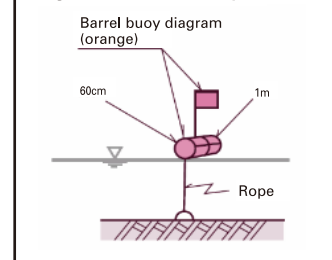

Fig. 6 Work pattern of Kaishomaru dredge (top view)
- 1) The nationally owned drag suction dredge Kaishomaru will handle dredging in parallel with the passage (Figs. 6, 7).